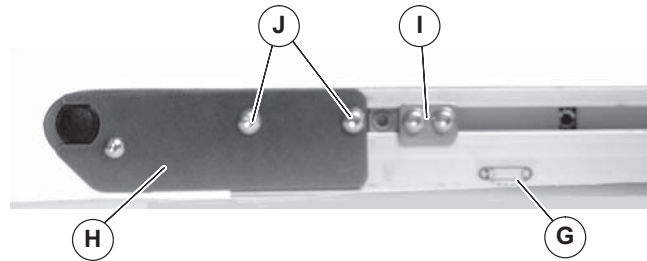

Figure 3
Tension end of conveyor is identified with a  label (Figure 3, item G).
- If equipped with cam tracking assemblies (Figure 3, item I), reposition and adjust belt tracking. Refer to “Conveyor Belt Tracking” on page 10.